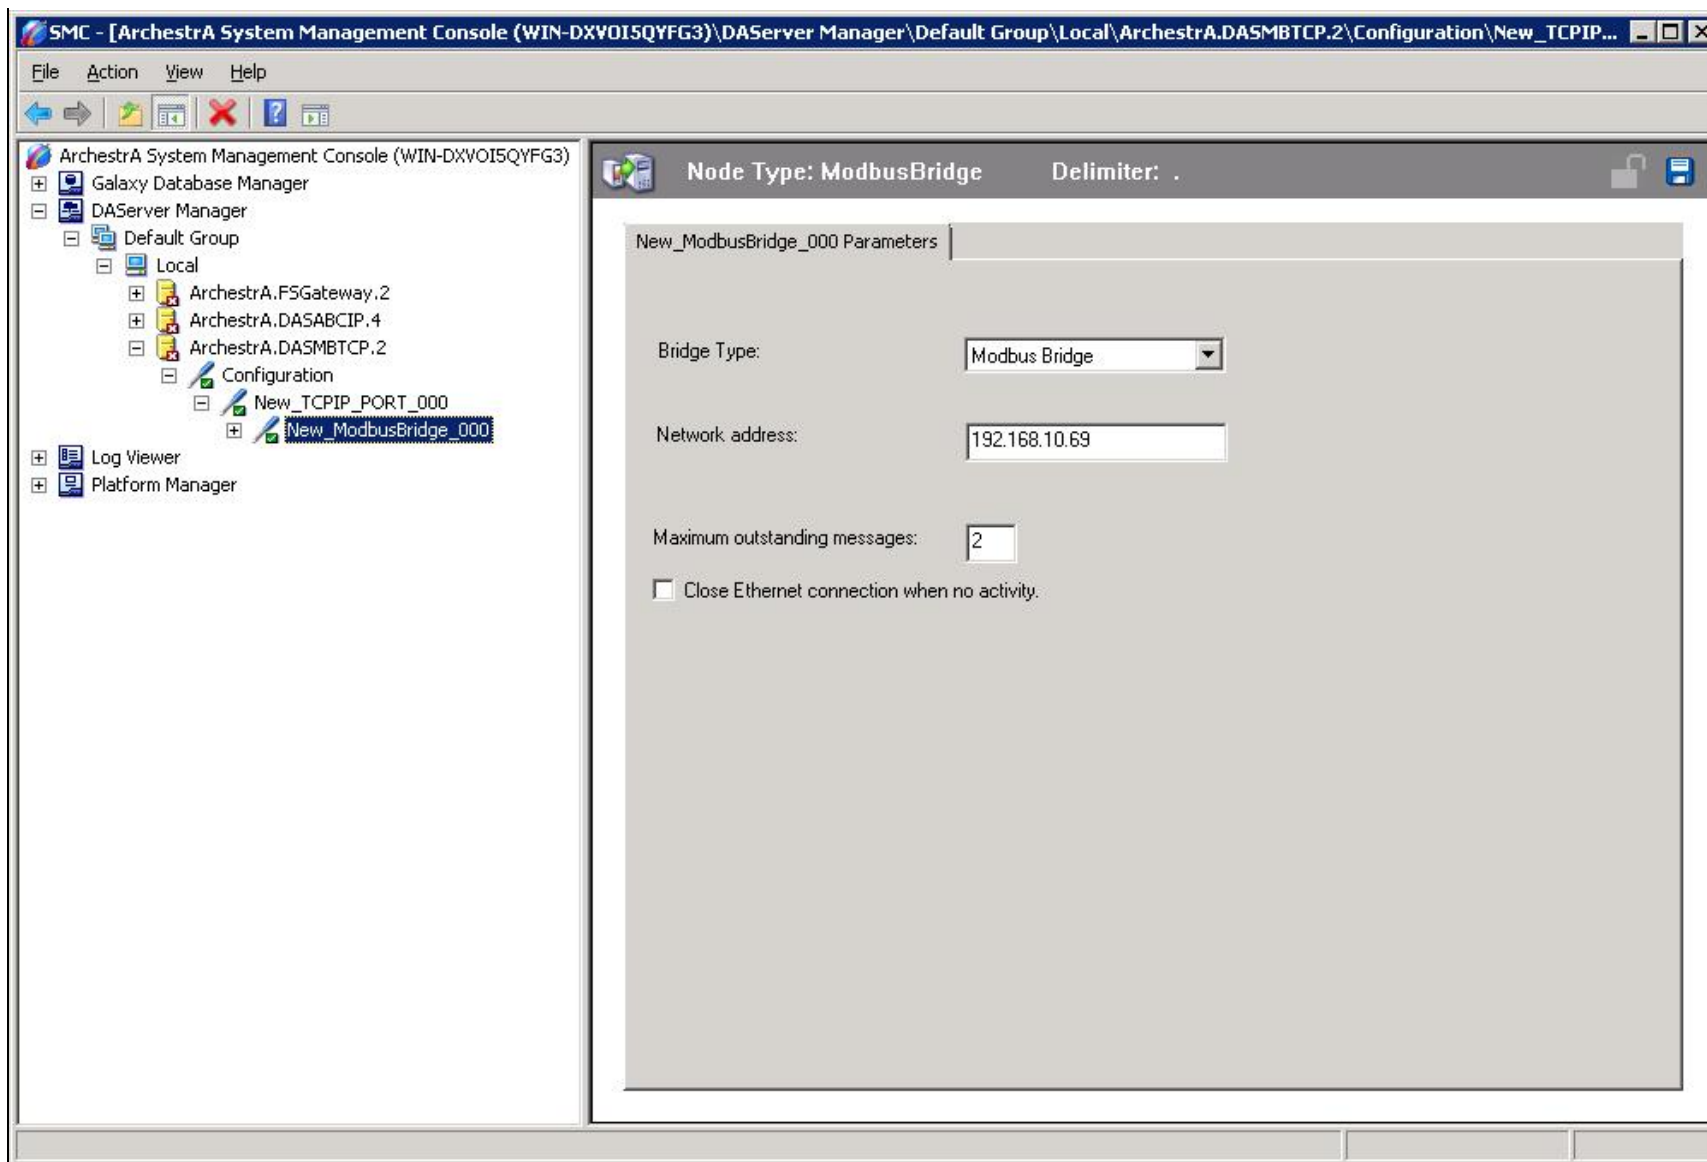

FIGURE 3: NEW MODBUSBRIDGE FACEPLATE
2. You should now see a new faceplate appear labeled **New_ModbusBridge_000** (Figure 3 below):
Note: You must provide the Network (IP) address of the device, as shown in Figure 3 above.